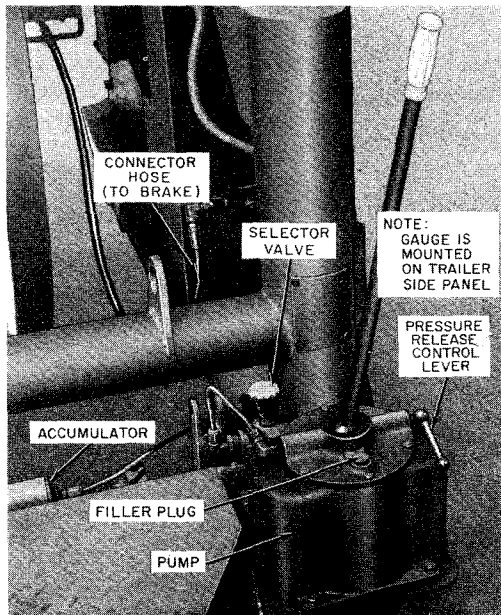

Fig. 2—Major Components of AT-8413 L2A Hydraulic System
2.03 The AT-8413 L2A Hydraulic System is mounted on the cable reel trailer and used to control the cable reel brake. The L2A system consists of tubing, fittings, a gauge for indicating cable tension, a connector hose for connecting the hydraulic system to the brake, an air or nitrogen charged accumulator, a selector valve used to transfer control of the brake to either the towing vehicle cab or the trailer, and a manually operated pump. The major components of the L2A system are shown in Fig. 2.